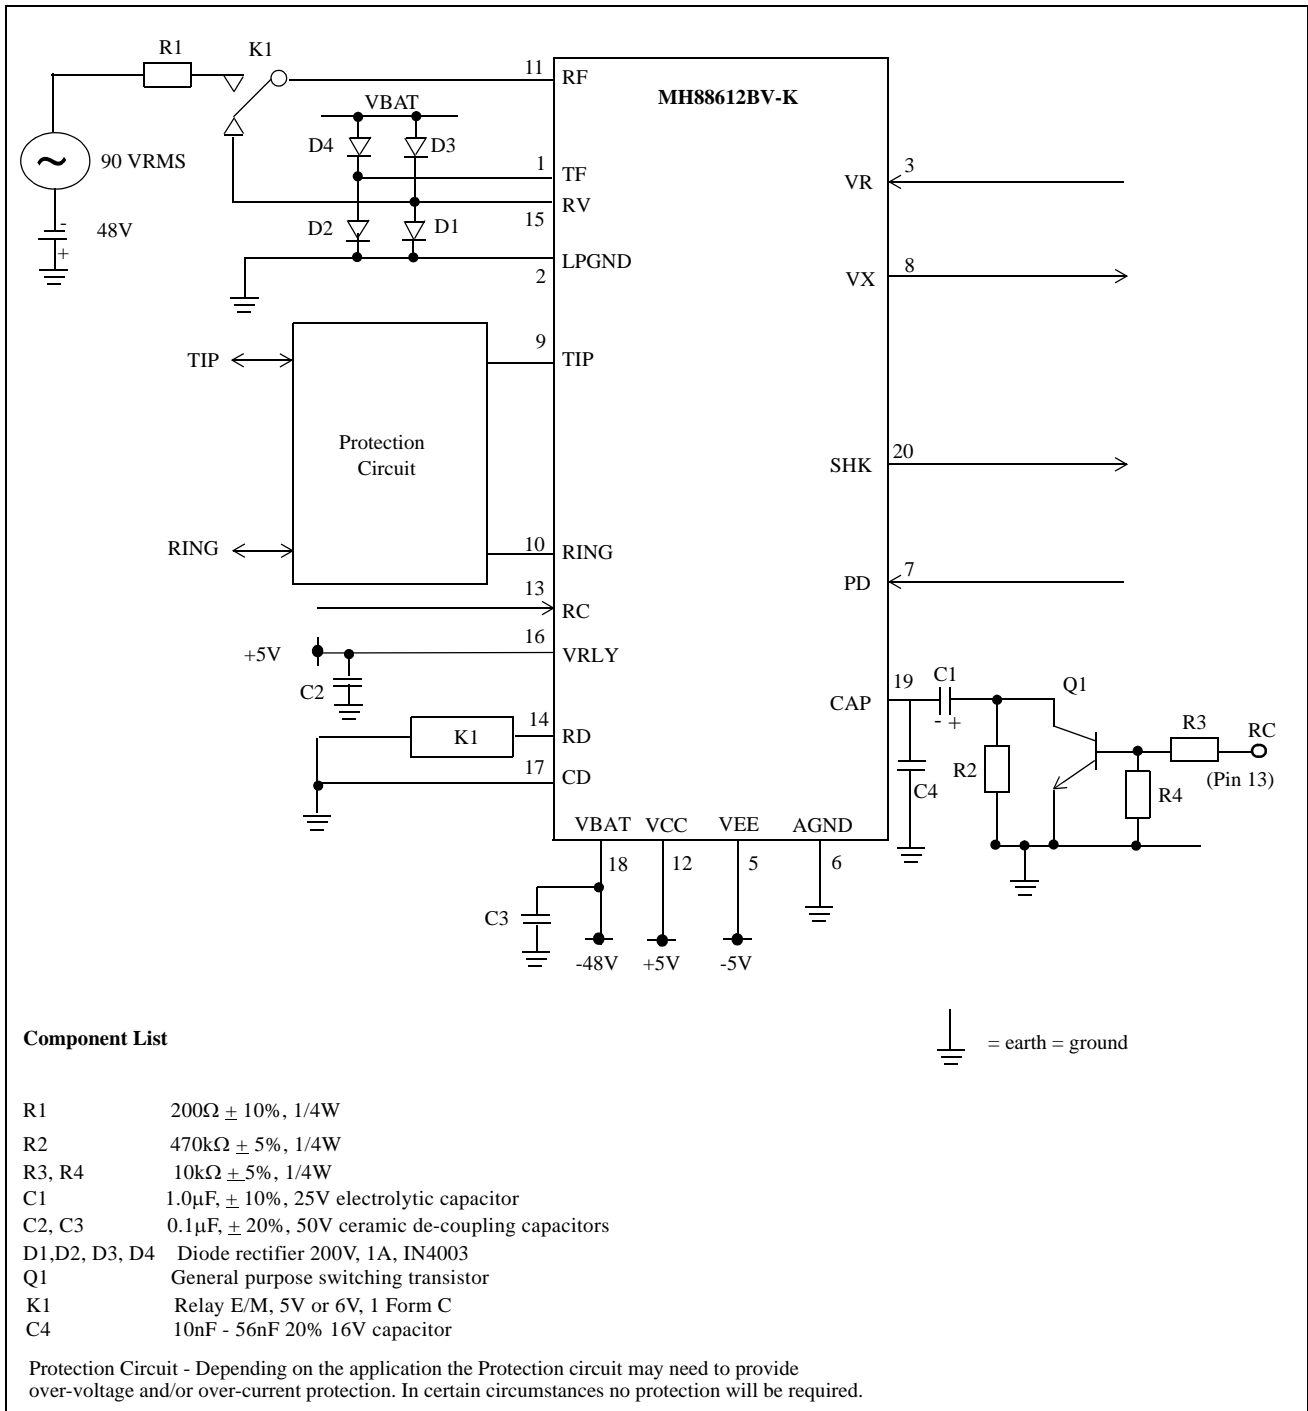

Figure 3 - Typical Application Circuit
Note 1: C4 in Figure 3 can be added permanently to this pin for certain dial pulse applications.
In Figure 3 a ringing signal (e.g., 90 Vrms and -48Vdc) is applied to the line by disconnecting pin 15 (RV) from pin 11 (RF), and connecting the ringing voltage at pin 11 (RF) by use of the relay K1.
During off-hook conditions (on-line), the capacitor (C1) should not have a low impedance path to ground. This can be achieved using a transistor (Q1) and resistor (R2) as shown in Figure 3, with R2 providing a high impedance path for C1. When ringing is applied (RC = 5V) the transistor will short circuit R2 which will give C1 a low impedance path to ground and provide the required filtering.